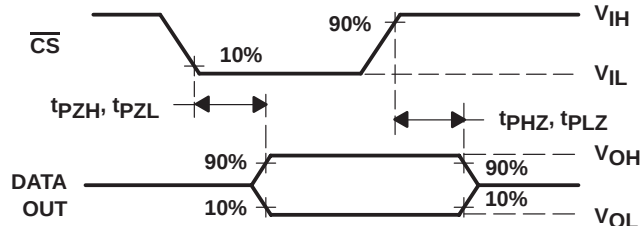

Figure 8. DATA OUT to Hi-Z Voltage Waveforms
10. I/O CLK period =  $1/(\text{I/O CLK frequency})$  (see Figure 8).
| $t_{PZH}, t_{PZL}$ Enable time, $\overline{CS}$ low to DATA OUT valid (MSB driven)         | See Figure 8    |     | 0.7              | 1.3 | μs   |
| $t_{PHZ}, t_{PLZ}$ Disable time, $\overline{CS}$ high to DATA OUT invalid (high impedance) | See Figure 8    |     | 70               | 150 | ns   |